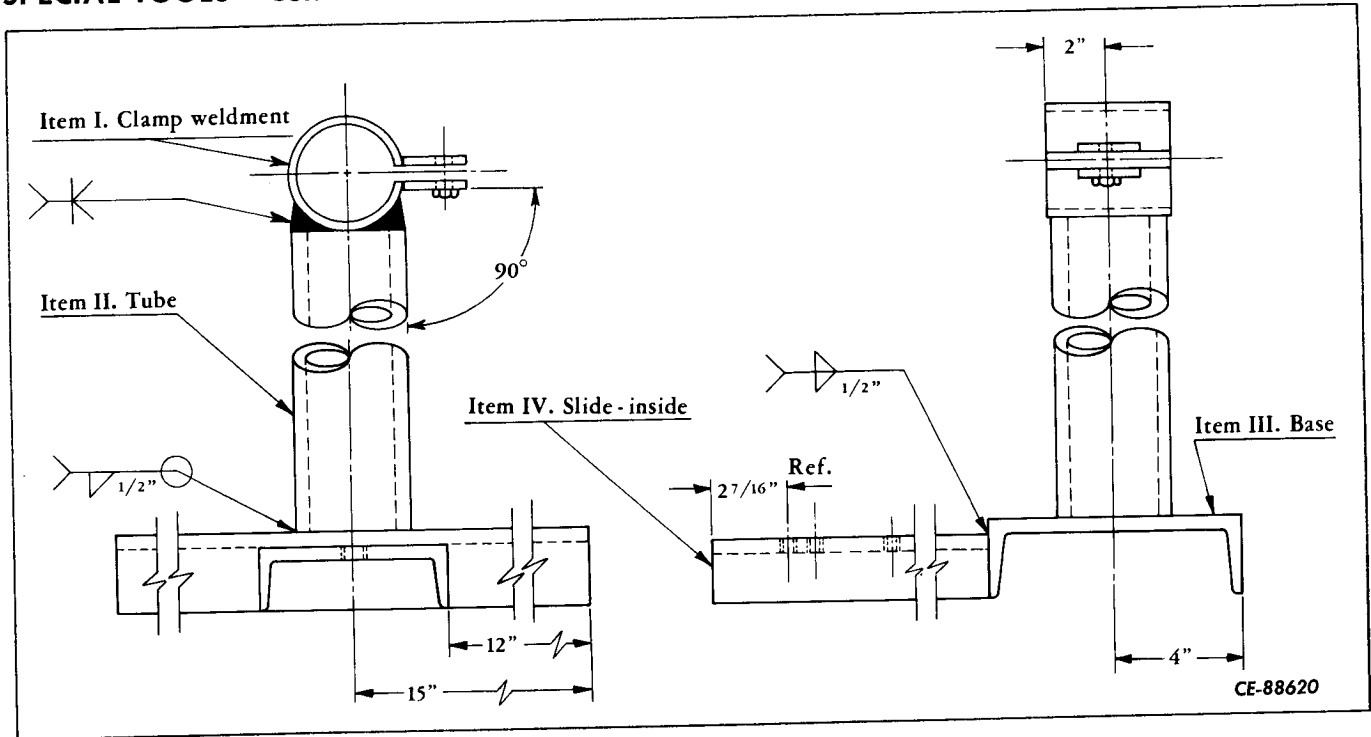

Figure 6-84
B. Stand weldment - left hand (Fig. 6-84).